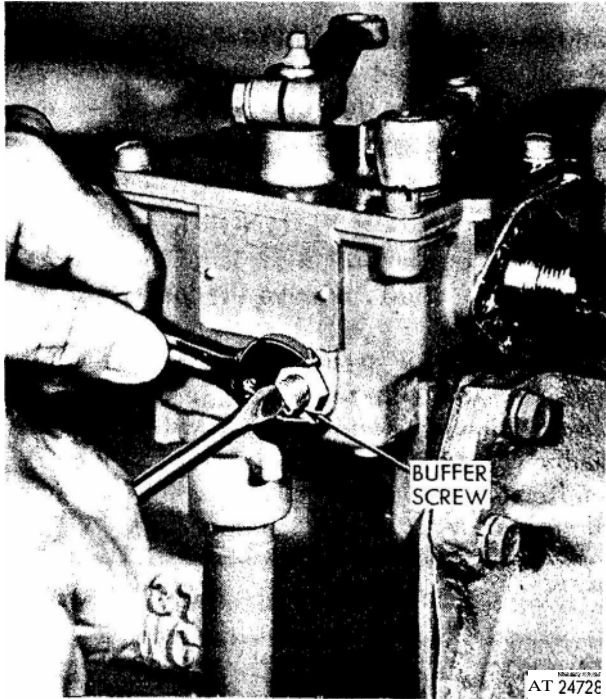

Figure 5. Adjusting engine idle speed.
4. Start the engine and adjust the idle speed screw to obtain an idle of 500 to 600 rpm (fig. 5).
1. With the engine running at normal operating temperature and with the buffer screw backed out to avoid contact with the differential lever, turn the idle speed adjusting screw, (fig. 5), until the engine idles at the recommended idle speed.